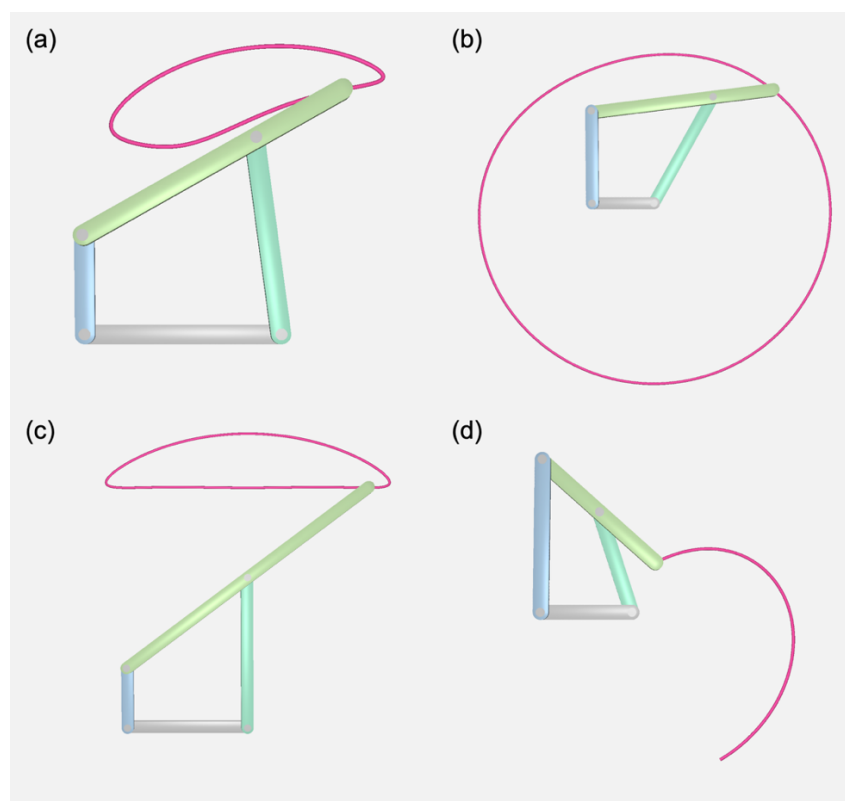

Figure 1. Expected program output of four different 4-bar linkages: (a) Crank-rocker; (b) Drag-link; (c) Hoecken; and (d) Double-rocker.
To accentuate the interesting motions of linkages, we can add a tracer particle (i.e., the end-effector point) to a link. The pink curve in Figure 1 shows the trajectory of the particle for a whole motion period of the linkage. The following code creates a particle.
3. Hoecken linkage. This is a crank-rocker mechanism that produces a nearly straight line; see https://en.wikipedia.org/wiki/Hoecken_linkage and Figure 1(c).
We have implemented the crank-rocker linkage in the provided code framework, and **your task is to initialize the other three linkages by providing the joint information in Linkages.cpp to achieve the expected results in Figure 1(b-d).**